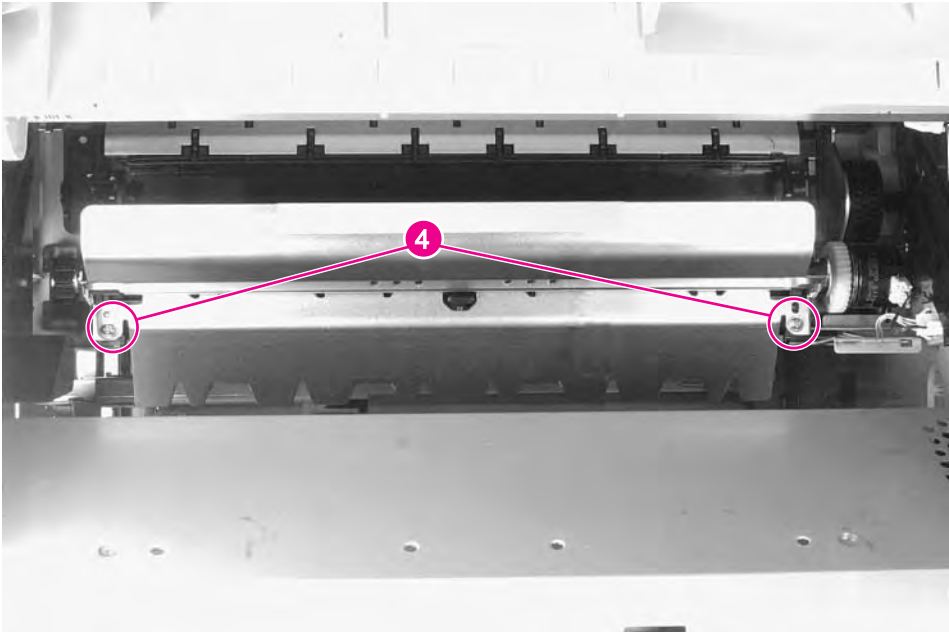

Figure 6-53 Registration Assembly (3 of 3)
- 6 Lift the registration guide and remove 2 screws at the front of the assembly (figure 6-53, callout 4).